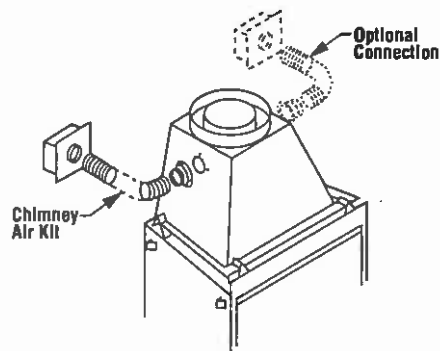

Figure 21
**Step 6.** Remove one of the knockouts from the fireplace transition and attach the 4" (102 mm) collar from the air kit to the transition with four (4) No. 8 x 1/2" screws provided (Figure 21).